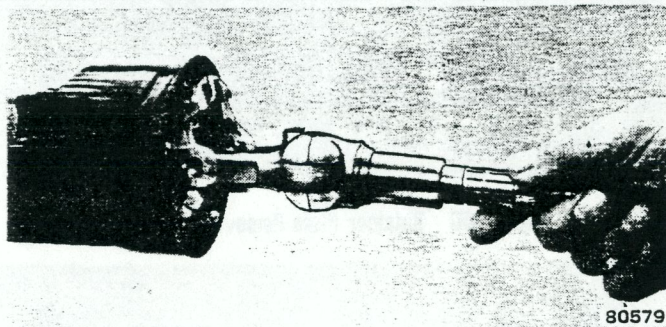

Fig. 2J-58 Steering Shaft Removal/Installation
(40) Remove support attaching bolts and remove support (fig. 2J-59). Use 1/4-inch, 12-point deep socket to remove bolts.